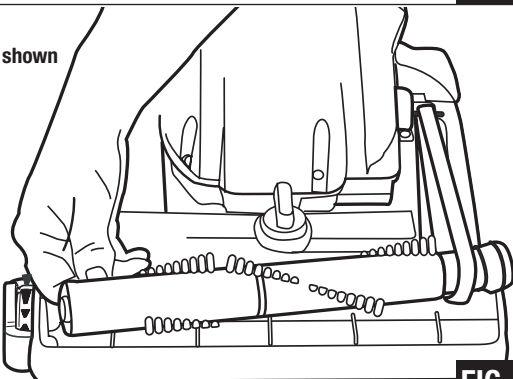

FIG. 25
Step 8: Align left end cap with base. Push end cap securely into place. Make sure the square on the brushroll cap is in place (FIG. 25).